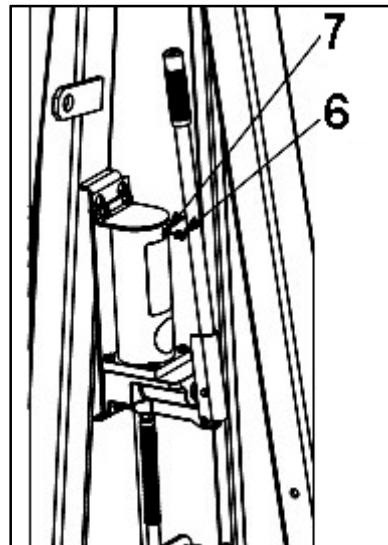

Fig. 4: Install breather vent plug
7. Remove the shipping plug [#6] from the pump [#4] as shown in Fig. 4.